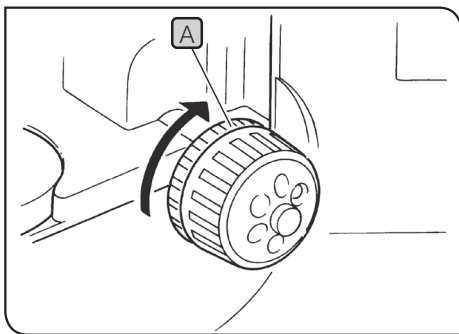

Fig.22
### 4 Adjusting the coarse adjustment knob tension (Fig.22)
- The tension is too low if the stage drops by itself or focus is quickly lost after adjustment with the fine adjustment knob. In this case, turn the ring Fig.22 in the direction of the arrow to increase tension.